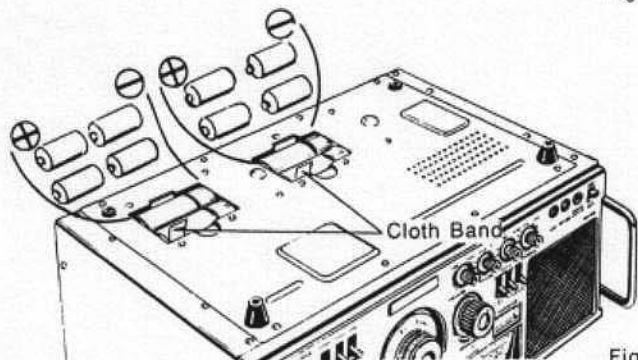

Fig. 2
- Insert 8 "D" size (Panasonic UM-1 or equivalent) batteries, observing the correct polarity, as shown in Fig. 2. Place the cloth bands under the batteries to facilitate easy removal.
**Note:** Make sure the DC Input ⑬ and AC Input ⑭ jacks are disconnected.